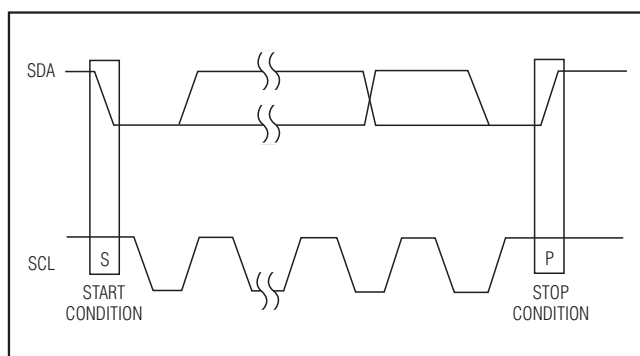

Figure 6. Start and Stop Conditions
Each transmission consists of a START condition sent by a master, followed by the MAX6621 7-bit slave address, plus an R/W bit, one or more data bytes, and finally a STOP condition (Figure 6). To write to a MAX6621 register, a write transmission consists of a START condition, followed by the MAX6621 7-bit slave address plus R/W = 0, a register address byte, one data byte, and finally a STOP condition. To read from a MAX6621 register, a combined write and read transmissions are required. The first write transmission consists of a START condition, followed by the MAX6621 7-bit slave address plus R/W = 0, a register address byte, and finally a STOP condition that sets the register to be read. The second read transmission consists of a START condition, followed by the MAX6621 7-bit slave address plus R/W = 1, one or more data bytes, and finally a STOP condition that reads the data from the
Both SCL and SDA remain high when the interface is not busy. A master signals the beginning of a transmission with a START (S) condition by transitioning SDA from high to low while SCL is high. When the master has finished communicating with the slave, it issues a STOP (P) condition by transitioning SDA from low to high while SCL is high. The bus is then free for another transmission (Figure 6).
**P:** I2C STOP CONDITION. SEE FIGURE 6.
**S:** I2C START CONDITION. SEE FIGURE 6.